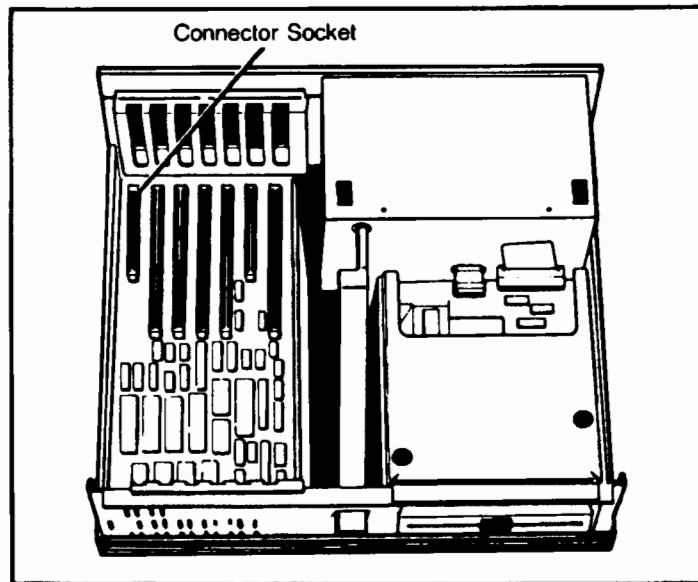

Figure 2-3. Accessory Card Slots
4. Choose any empty card slot, but preferably one with a short connector socket. See figure 2-3.